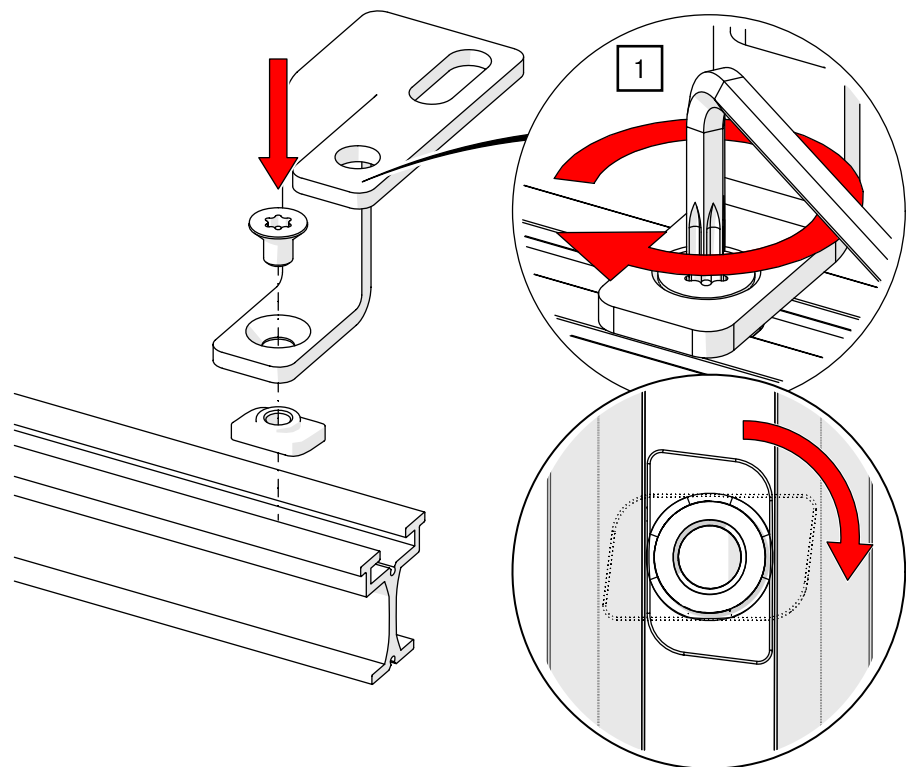

Fig. 63: Assembling the cord operation – Assembly with slot nut
1. Mount the sheet metal for suspension to the track using the slot nut and TORX®-key T40 (see Fig. 63).